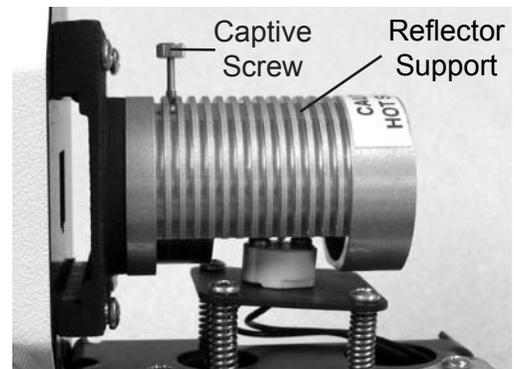

Figure MM-8 Reflector Support
2. Remove bulb reflector housing by loosening the Captive Screw. Refer to Figure MM-8.